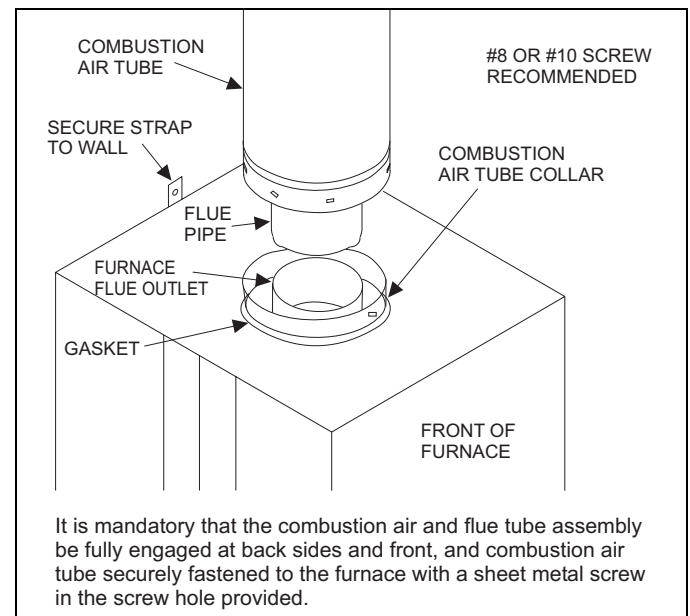

FIGURE 24: Connecting Roof Jack to Furnace
2. Pull the Roof Jack's telescoping section down onto furnace. Fully engage Roof Jack onto Vent Connector and Air-Intake Connector and compress gasket. See Figure 24. Refer to Interior Roof Jack Extension installation instructions, if applicable.
2. Pull the telescoping flue tube and combustion air tube assembly down from the roof jack. Slide the flue tube/combustion air tube assembly down firmly over the furnace flue outlet and combustion air collar. Insure that the back, side and front of combustion air tube collar is fully engaged and is in contact with gasket. Fasten the combustion air tube to the furnace combustion air collar using a 1/2 inch sheet metal screw. (Screw hole provided in combustion air tube and furnace combustion air collar. See Figure 24).